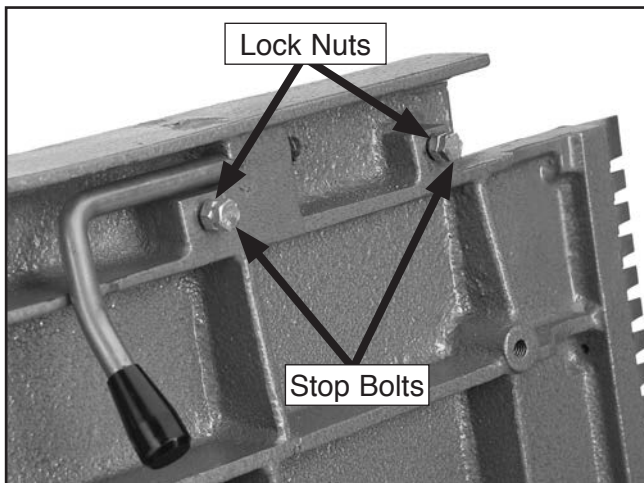

Figure 60. Location of outfeed table stop bolts and lock nuts.
1. Loosen lock nuts on both stop bolts shown in **Figure 60** at front of table.